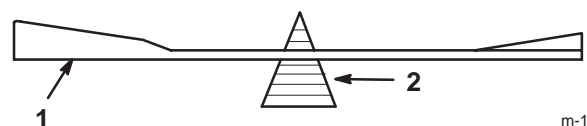

Figure 36
2. Check the balance of the blade by putting it on a blade balancer (Fig. 36). If the blade stays in a horizontal position, the blade is balanced and can be used. If the blade is not balanced, file some metal off of the back side of the blade. Repeat this procedure until the blade is balanced.